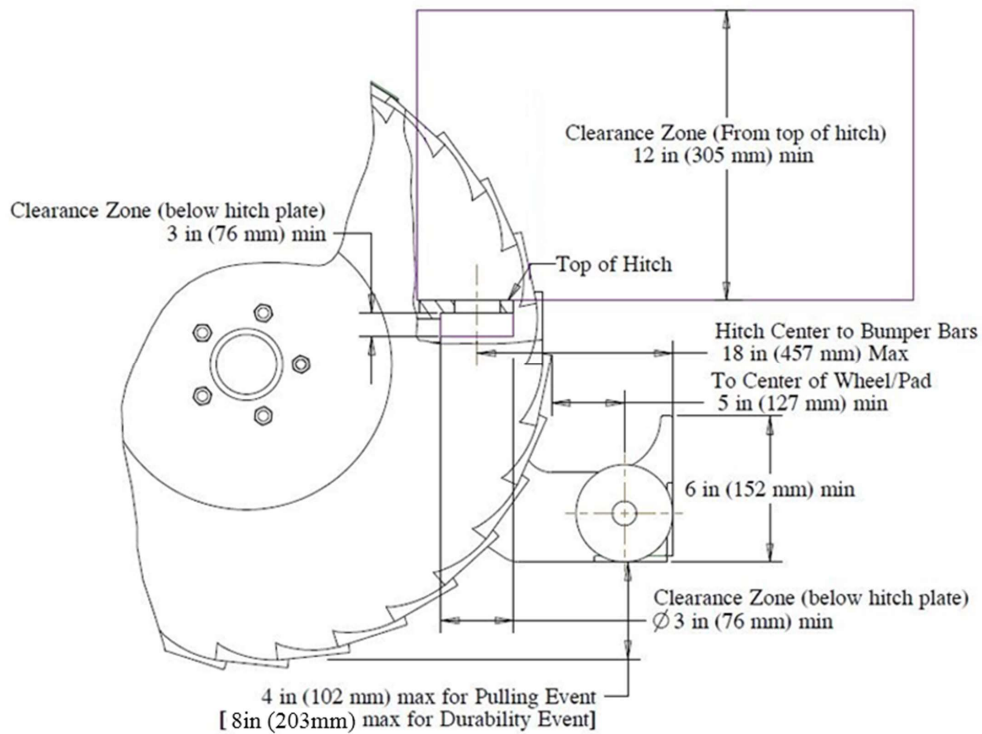

Figure A-1 Spacing of Wheelie Bar Unit and hitch clearance zone on Tractor (Wheels or Pads)
- 14.7. Hook point must allow for easy hooking and unhooking of the chain with a minimum clearance zone around the hitch shown in Appendix, Figures A-1 & A-2. The upper zone must be maintained 12 inches (305 mm) above the top surface of the hitch plate, and the lower zone must be maintained 3 inches (76 mm) below the bottom surface of the hitch plate. This clearance zone must be maintained when the tractor is fully ballasted.